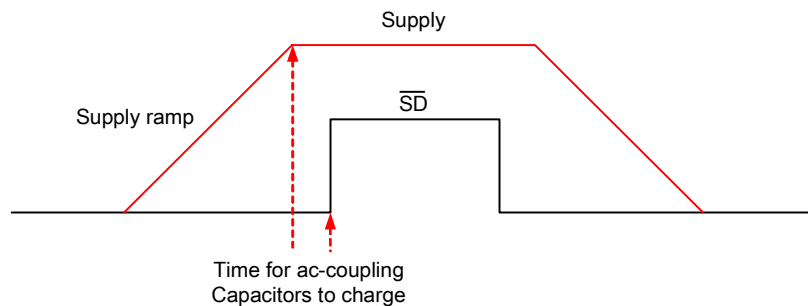

Figure 1. Power-Up Sequence
Pop-free power up is ensured by keeping the \overline{SD} (EN) (shutdown pin) low during power supply ramp up and down. The EN pin should be kept low until the input ac-coupling capacitors are fully charged before asserting the EN pin high, this way proper precharge of the ac-coupling is performed, and pop-less power-up is achieved. Figure 1 illustrates the preferred sequence.